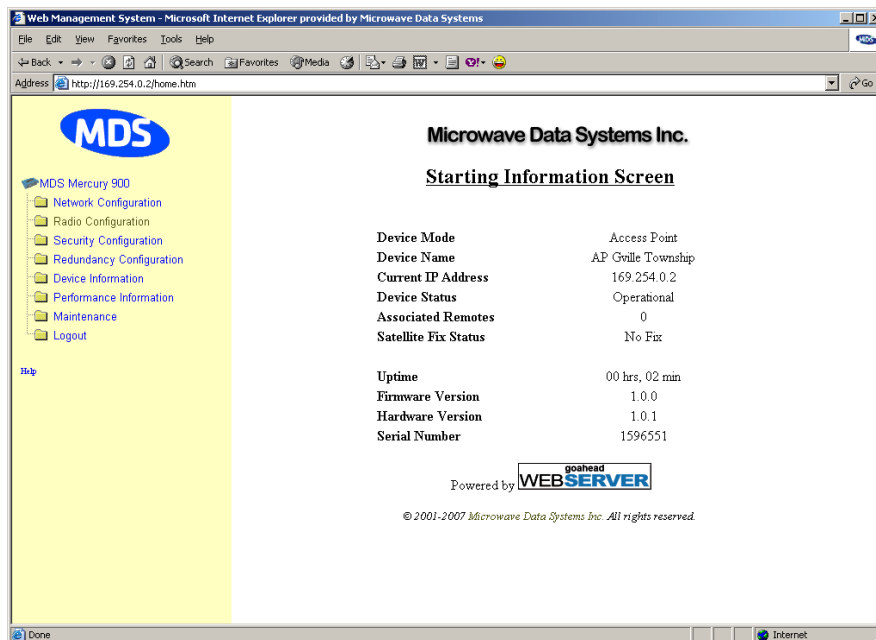

Figure 3-8. Starting Information Screen Web Browser Example
5. Click **OK**. The unit responds with a startup menu screen similar to that shown in Figure 3-8. From here, you can review basic information about the unit or click one of the menu items at the left side of the screen.